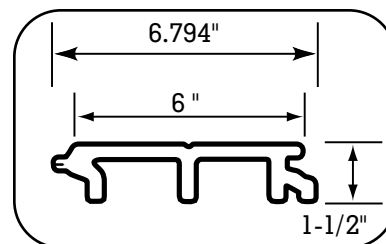

Fig. 1
- Tongue-And-Groove Planks (12', 16', 20' lengths; approximately 2.2 lb. per ft.) (Fig. 1)